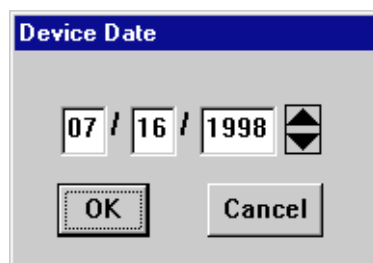

Figure 2-27. The Edit Date Window
2. The following change window, Figure 2-27, opens.